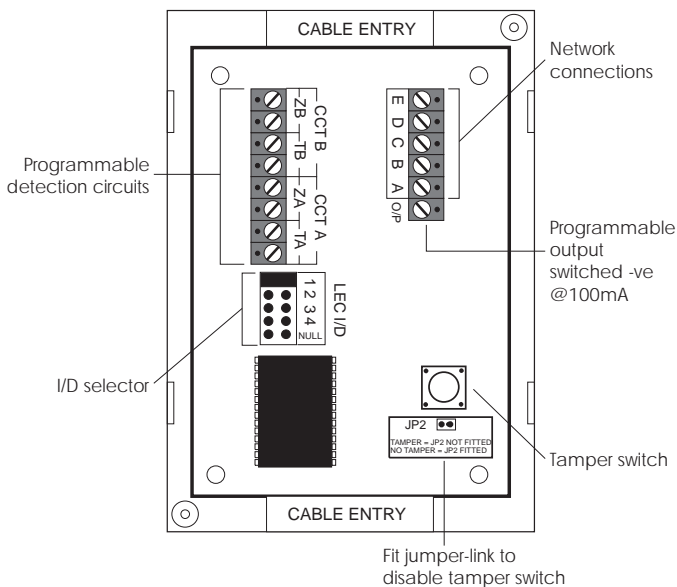

Figure 14 TS700 LEC Layout
2. If the LEC is being fitted inside the control panel you may remove the LEC PCB from its base and secure it to base of the control panel using self adhesive feet. If required, the tamper switch may also be disabled by fitting the jumper link across JP2, see Figure 14.
4. Connect "Remote Network" cables and detection circuit cables to the appropriate terminals, see Figure 14.